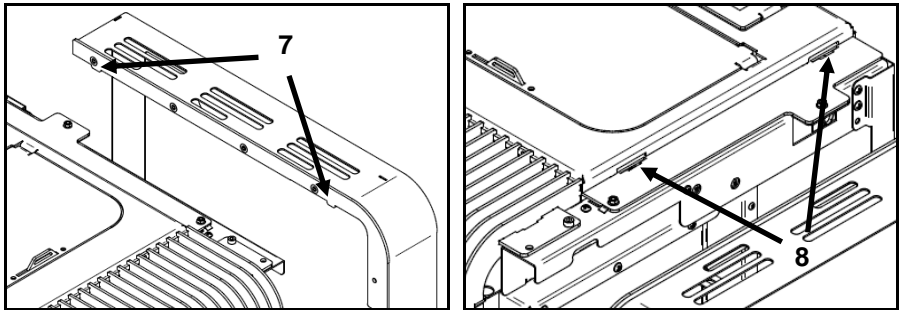

Figure 42 - Assembly of the Aspen covers
h) On the **Aspen** equipment, first fit the lower holes **5** of the side covers into the guides **6** at the bottom of the machine, then in the downward direction to fit the tabs **7** in the slots **8**, as shown in Figure 42.